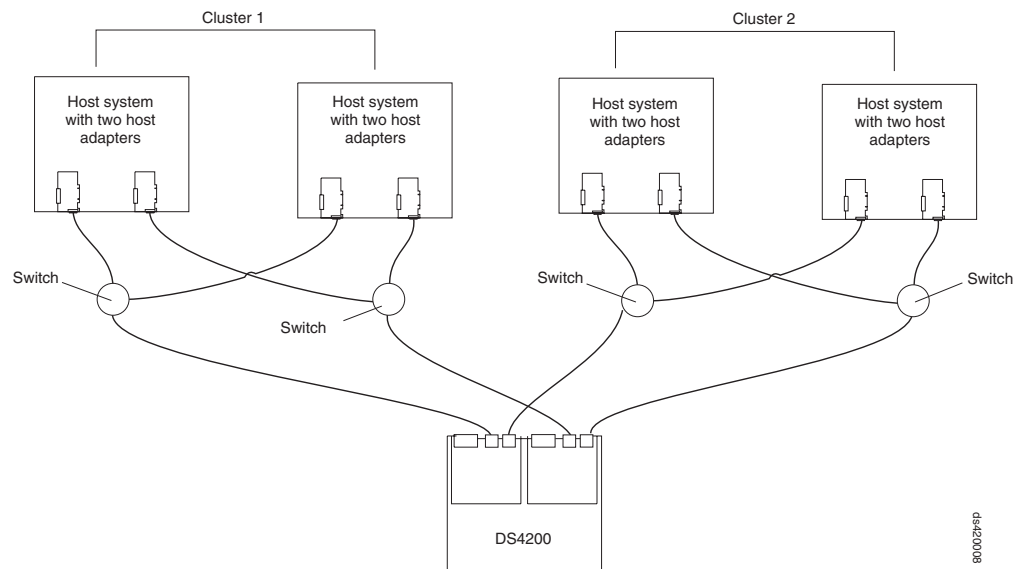

Figure 61. Example of a two-cluster configuration
- Two clusters, as shown in Figure 61 on page 77
Figure 61 shows an example of a two-cluster configuration.